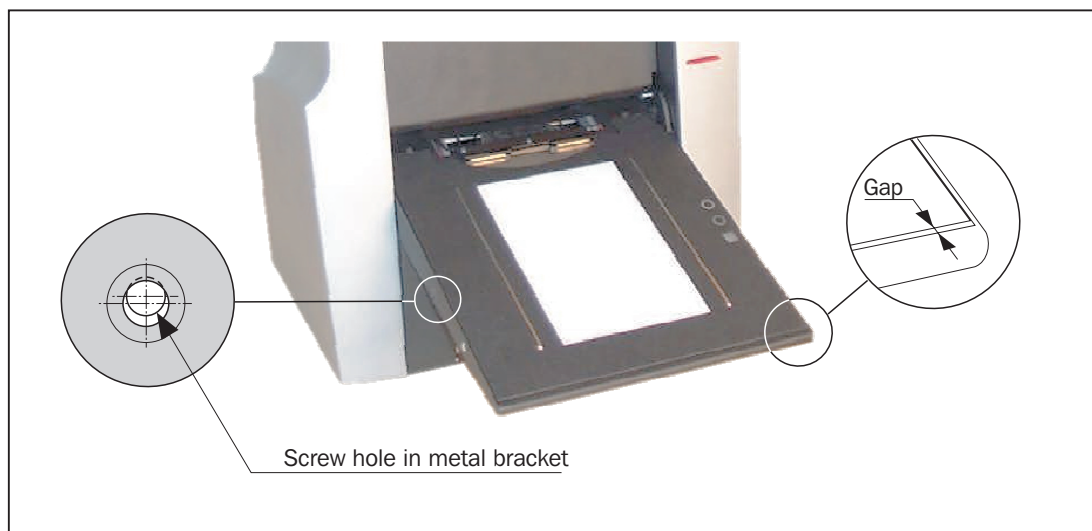

Figure 7.3: Light board assembling
7. Assemble the light table again, observing the following (see Figure 7.3):